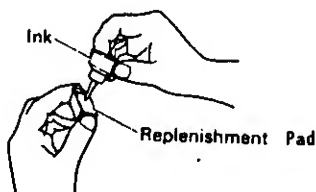

Fig. 16
3. Replenish ink to the bottom of the Stamp. (Fig. 16)